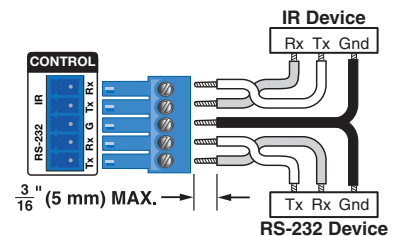

Figure 4. RS-232 and IR Wiring
- **USB Host ports (A)** — Connect a USB type A to B cable between this USB type B port and the USB port of a host.
- **USB Hub ports (B)** — Connect a USB type A cable between the USB type A port and peripherals.
a. To pass serial, IR data, or control signals, such as for serial control of a projector, connect the master device to the transmitter and the controlled device to the receiver via the CONTROL 5-pole captive screw connector (see figure 4 for wiring).